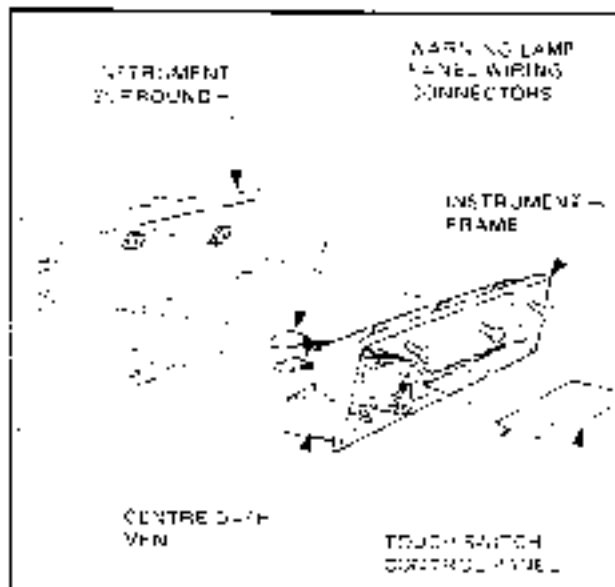

Figure 12C-25
6. Remove the five screws securing the instrument cluster to the instrument surround. Refer Fig. 12C-26.